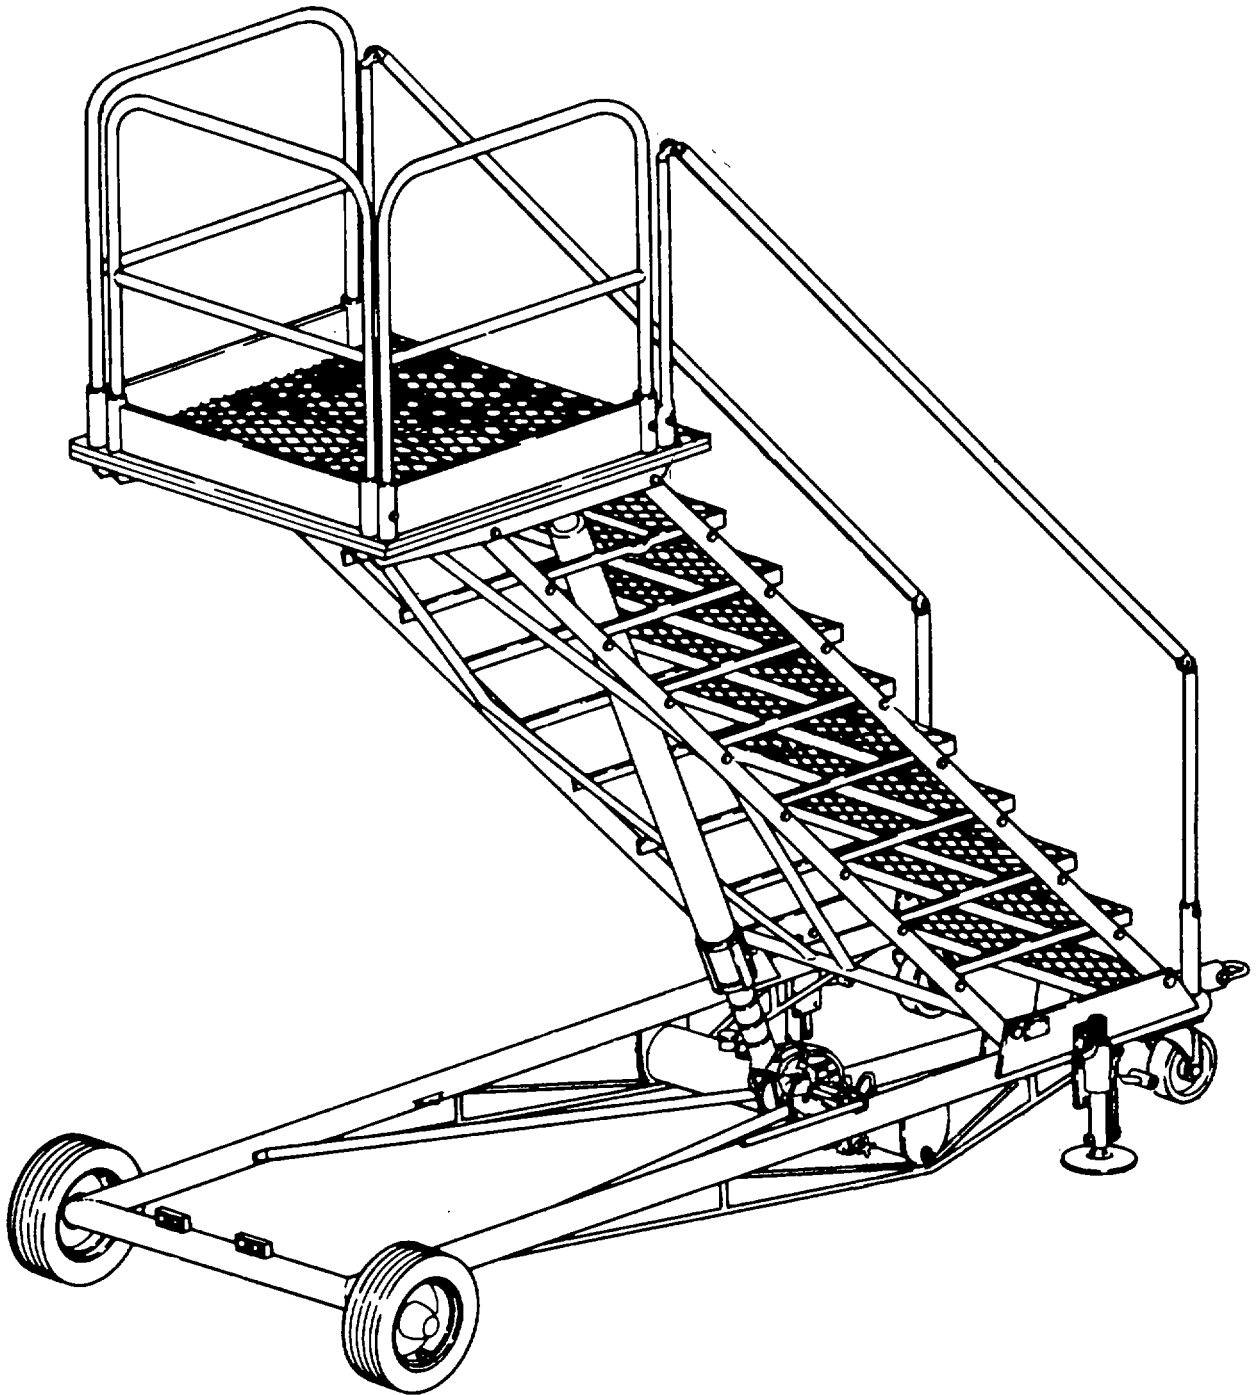

Figure 9-1. Type B-1 Maintenance Platform
(1) *Maintenance platform, type B-1.* The B-1 maintenance platform, as shown in figure 9-1, is a portable, variable-height, stair and platform assembly. The work platform is hydraulically raised and lowered, and is accessed by an adjustable stair assembly.